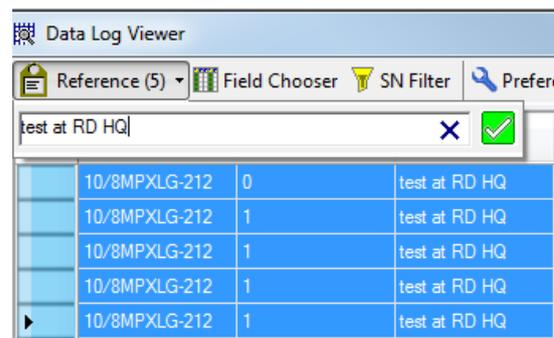

Figure 8.7: Editing the Usage Log Reference
2. Press Reference, see figure 8.7